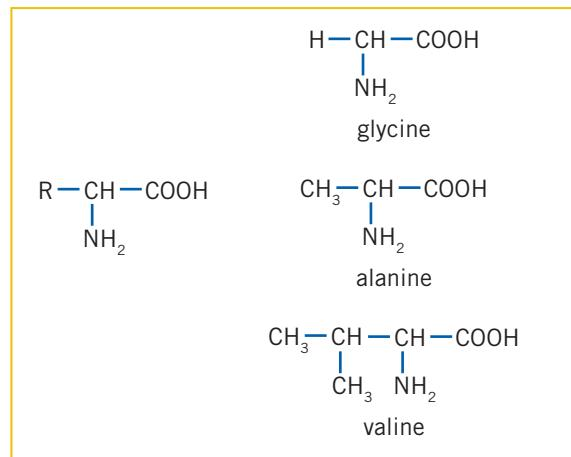

Figure 12.23 General formula of an α -amino acid and three examples
The name ‘amino acid’ suggests that these compounds contain an amine and a carboxylic acid functional group. The designation ‘ α ’ is used to show that the two functional groups are attached to the same, terminal carbon atom. The general structural representation of α -amino acids is shown in Figure 12.23.
- 4 Using the information in Figure 12.23, draw the structure of glycine in a solution with the following pH values.
- 5 a Using the structure of valine given in Figure 12.23, draw the zwitterion form of this amino acid.